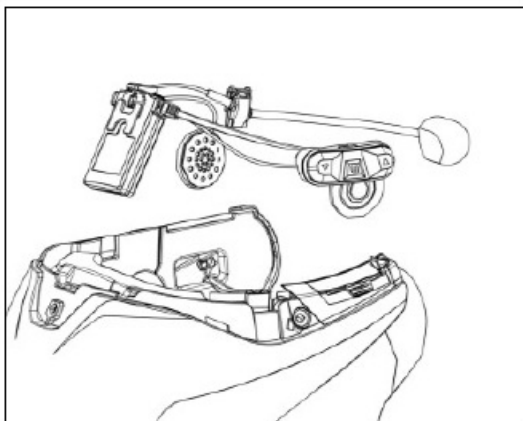

Fig. 7
- Place the system in the special housing in the back of the helmet, pushing it into the groove (Fig. 7).